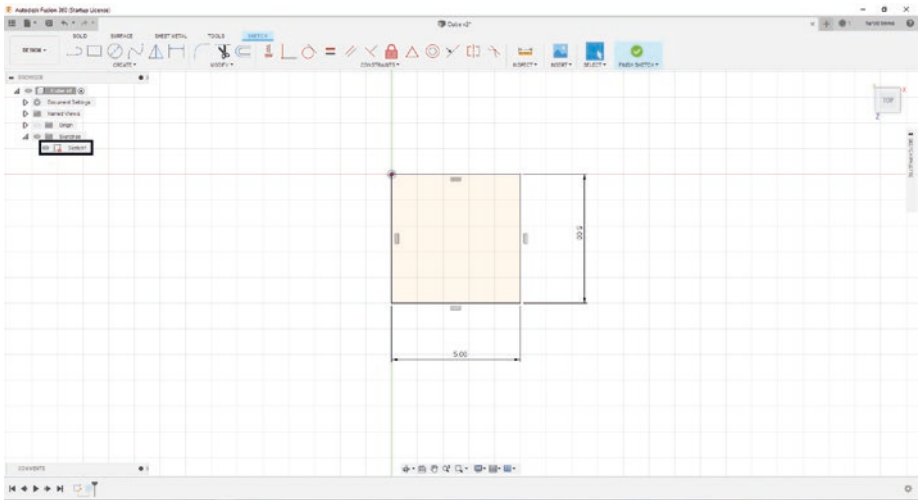

Figure 3-54. *Select Sketch1*
3. Go to the Browser menu and go to the folder Sketches and double-click Sketch1. This will take you to the Sketch view, and you can start to modify your sketch. See Figure 3-54.